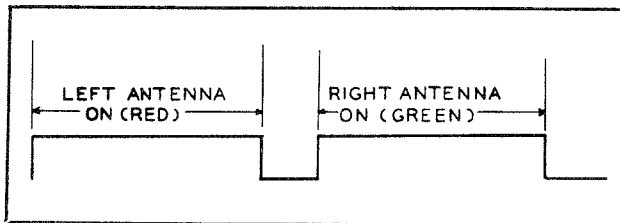

Figure 5-38. Motor Switch Oscilloscope Pattern—Video Contacts Removed
(10) To check for defective antenna contacts, the video connections must be removed; the picture shown in figure 5-38 should then be seen. If any chattering occurs (breaking of contact), it will be evidenced by blips on the trace line. (See fig. 38a.)